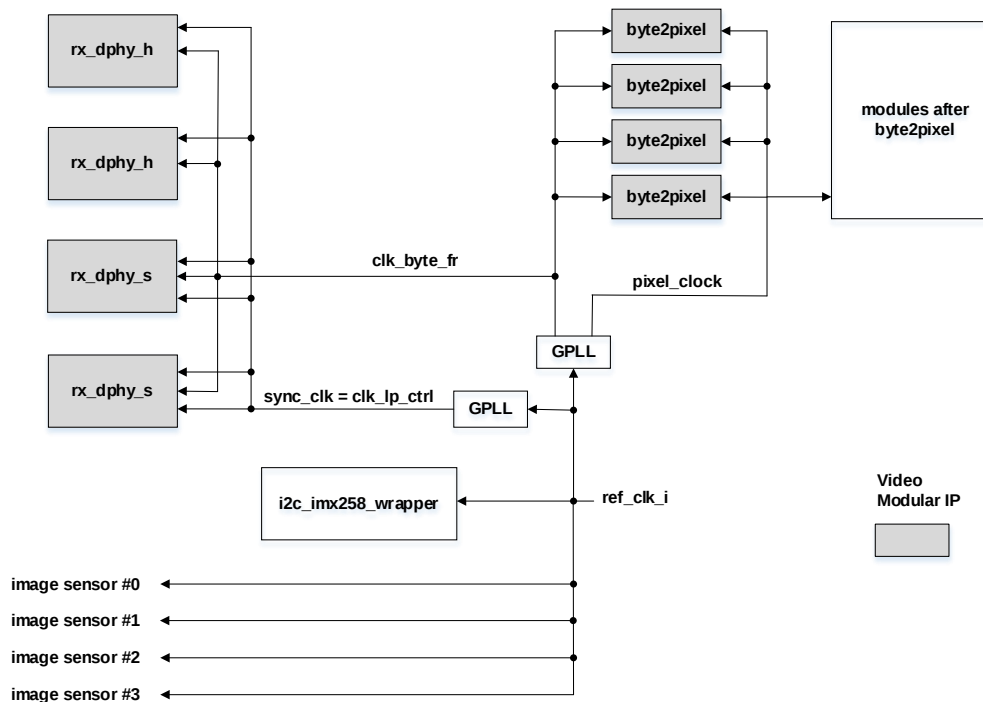

Figure 1.4. Sample Clocking Scheme in Non-Continuous Clock Mode
Figure 1.4 shows a clocking scheme in non-continuous clock mode. Continuous byte clock is not available and using GPLL to create it along with pixel clock in this example. Also, a clock to drive the logic to judge High Speed (HS) and Low Power (LP) mode on CSI-2 clock lane (clk_lp_ctrl) is necessary in this mode. sync_clk and clk_lp_ctrl can be the same clock and it is generated by another GPLL from the external reference clock and fed to D-PHY RX IP. The external reference clock is also sent to all image sensors through CrossLink-NX devices for synchronous operation. Two GPLL are used in this example, but using only one GPLL could be possible if all necessary clocks can be generated by a single GPLL.